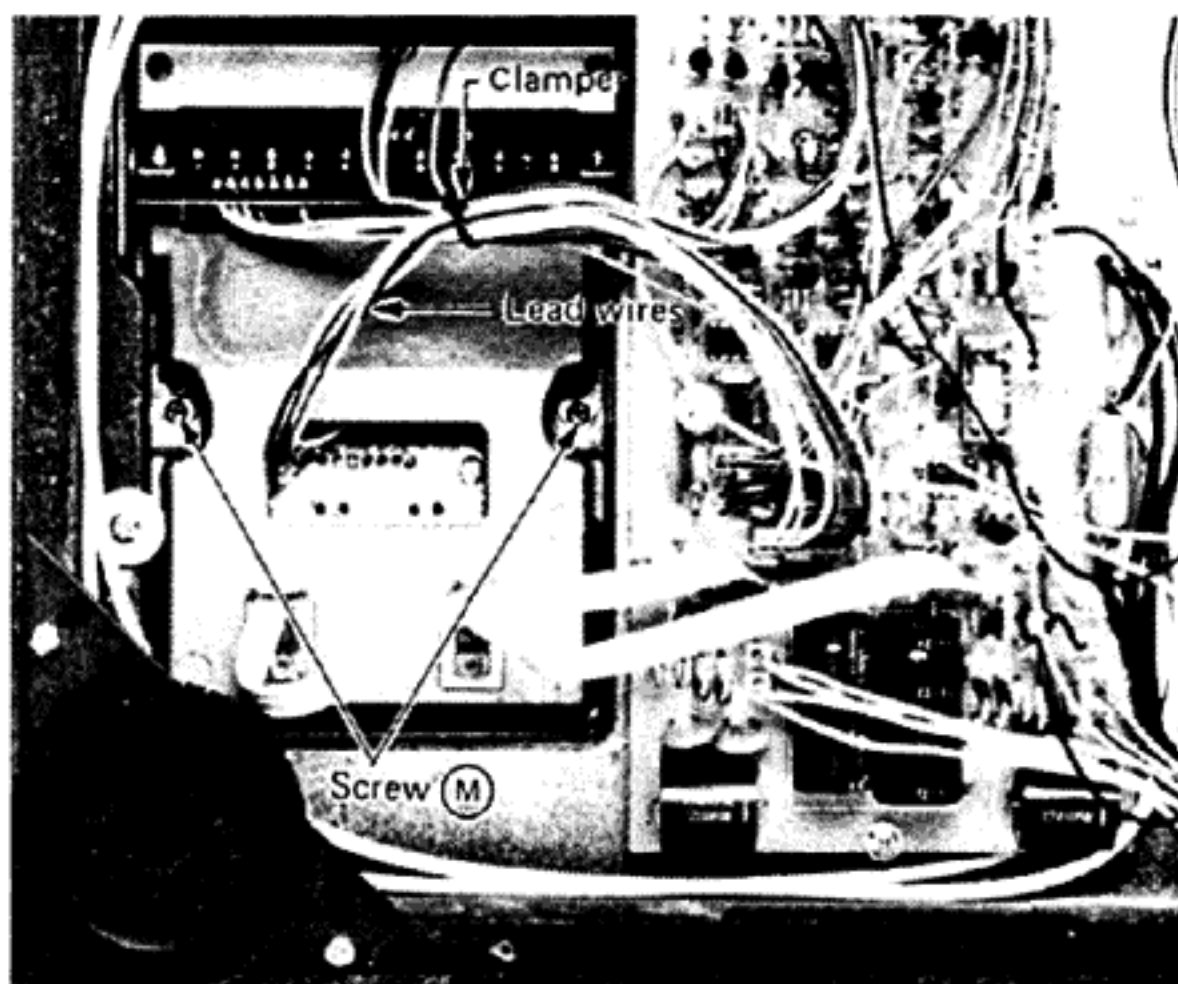

Fig. 9
- 2) Unscrew the two screws (M) shown in Fig. 9.